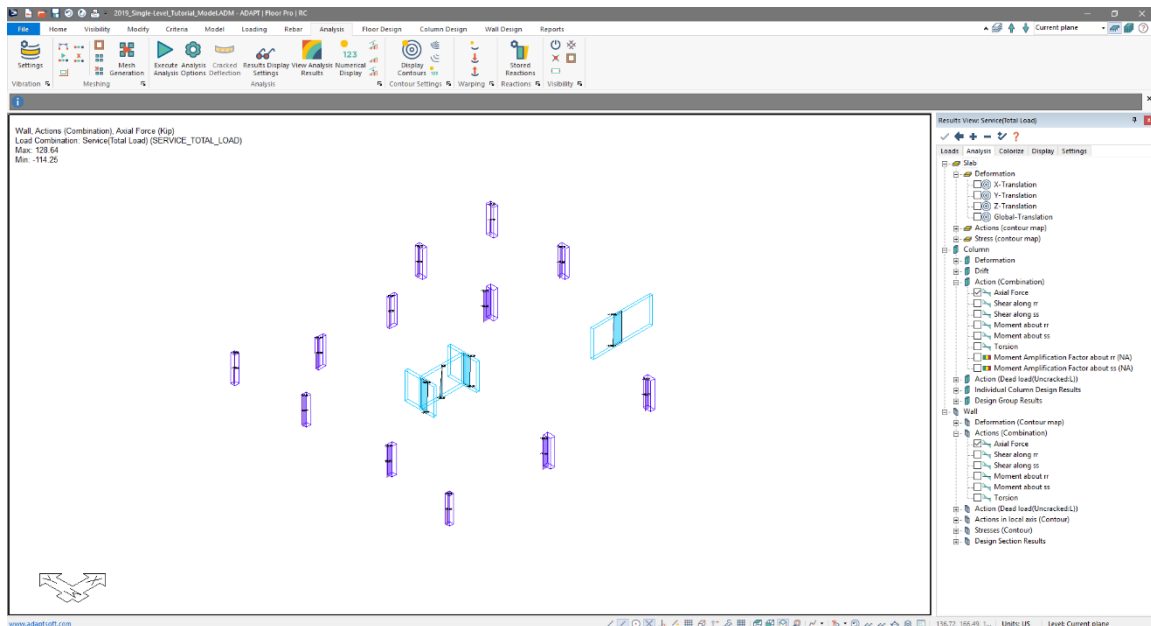

Figure 3-17
- Check the box under the *Action (Combination)* section for *Axial Force*. The user at this point should see the axial force diagram along the columns and walls as shown in **FIGURE 3-17**.